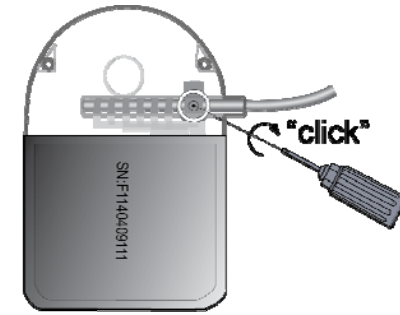

Figure 4
11. Remove the IPG from the pocket and use the torque wrench provided to tighten the setscrew until it “clicks” (Figure 4). Do not tighten the setscrew any further after the clicking sound.